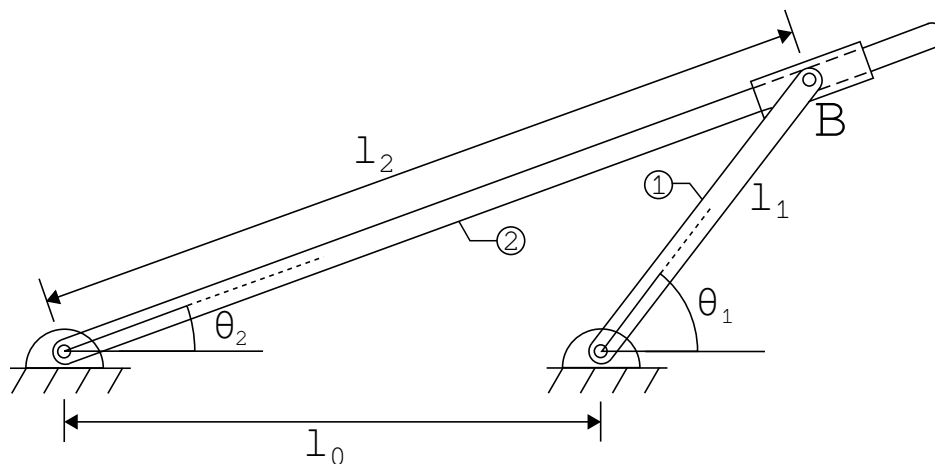

Figure 2: Sliding contact linkage
- [20 points] Referring to Figure 2, let $l_1 = 35$, $l_0 = 50$, $\theta_1 = \pi/10$ and ${}^0\omega^1 = \omega_1 k$ with $\omega_1 = 7.5 \text{ rad/s}$. Compute the following quantities: l_2 , θ_2 , ${}^0v^B$, and ${}^0\omega^2 = \omega_2 k$.